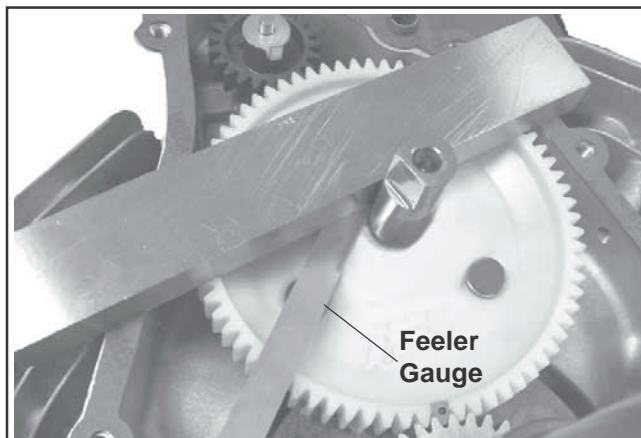

Figure 10-23. Checking Camshaft End Play.
2. Position the camshaft end play checking tool over the camshaft. Use a feeler gauge to check the end play between the camshaft and end play checking tool. Camshaft endplay should be between **0.3/1.3 mm (0.011/0.051 in.)**. See Figure 10-23.